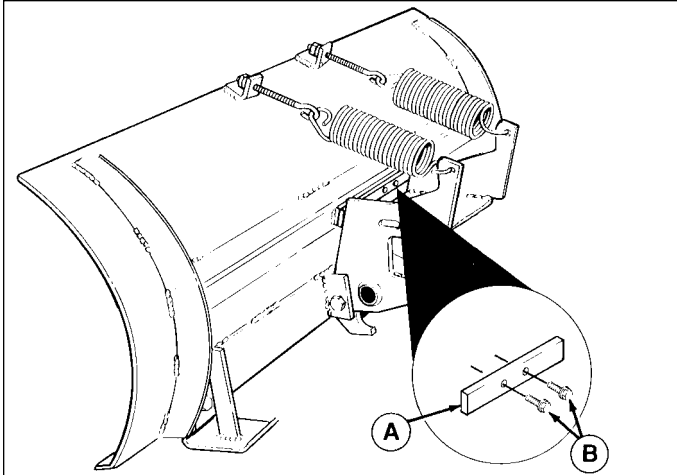

Figure 10. Bar Stop
2. See Figure 10. Install one bar stop (A) using the two 5/16-18 x 1 taptite screws (B). Do not install second bar stop.